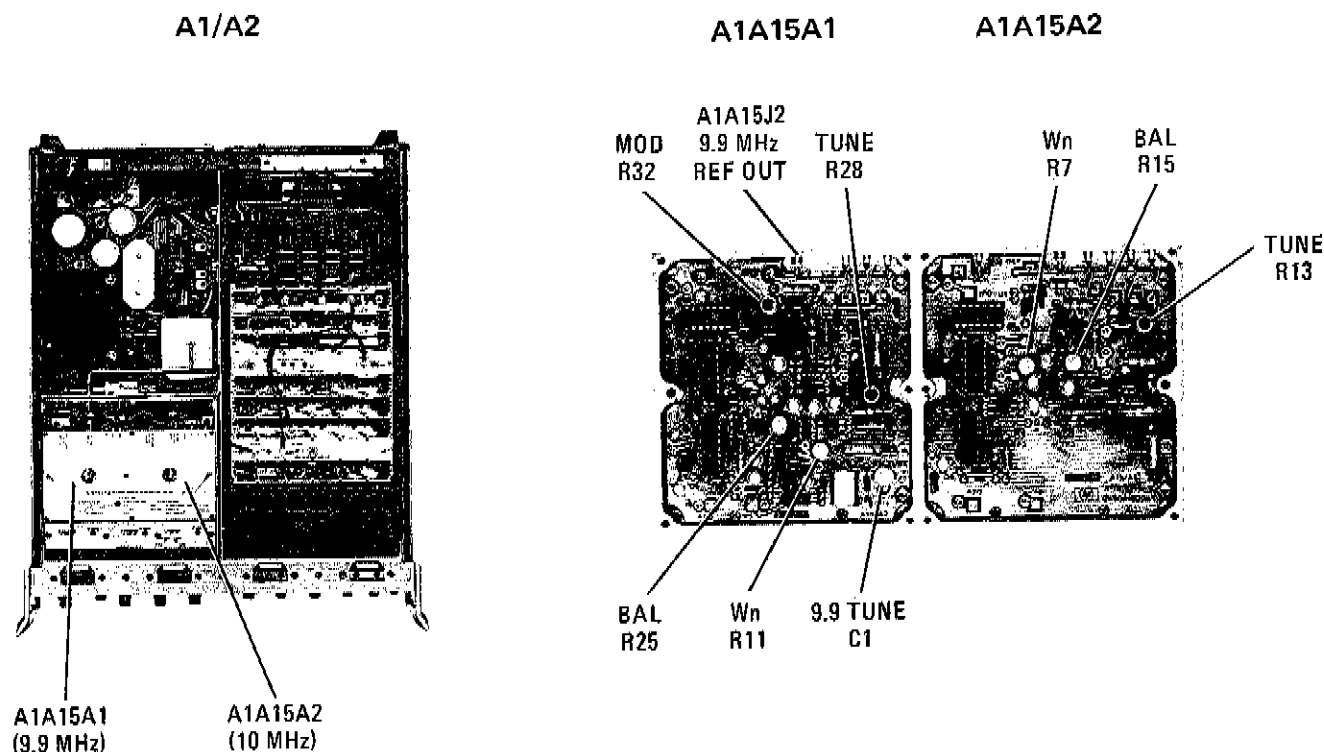

Figure A5-3. A1A15A1/A2 Adjustment Locations
- Connect a frequency counter to A15J2 (Figure A5-3). Adjust "9.9 TUNE" A1A15A1C1 for 9.9000 MHz  $\pm 10$  Hz (with cover on A1A15A1).
- a. On A1A15A2, connect DVM to TP3 and adjust "BAL" R15 for +1.8 Vdc. (See Figure A5-3.)